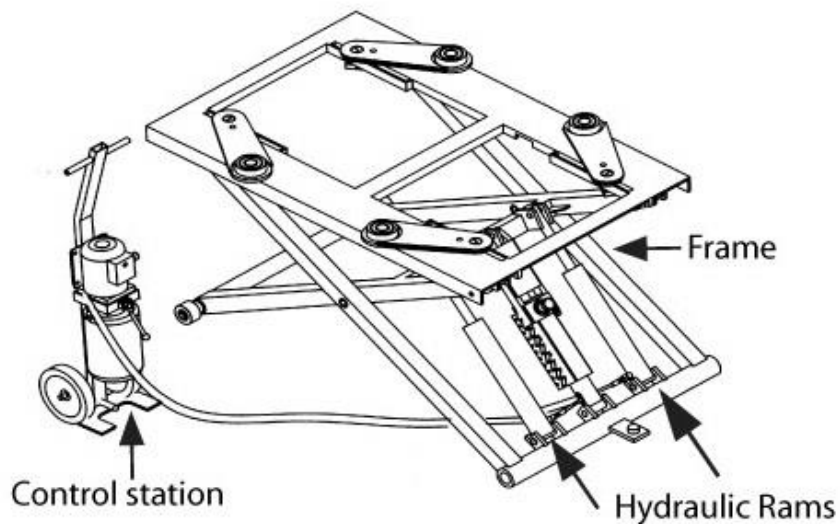

Fig.3 Complete unit
Fig.3 illustrates the various parts of the lift.
1.1 FIXED STRUCTURE (FIG.3)
1.2 MOVING UNITS (SEE FIG.3)